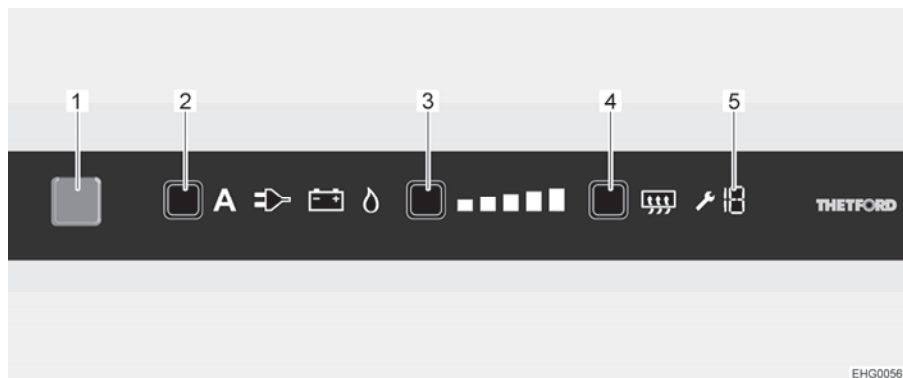

Fig. 136 LCD touchscreen
- Press and hold the On/Off button (Fig. 136,1) for 1 second. Button lights up blue. The last setting selected is displayed.
- Press the power selection button (Fig. 136,2) repeatedly until the desired energy source has been selected.
- Press the cooling level button (Fig. 136,3) repeatedly until the desired cooling level has been selected. The current cooling level is indicated by illuminated bars.
- Press and hold the On/Off button (Fig. 136,1) for about 2 seconds. All lights go out. Refrigerator is switched off.